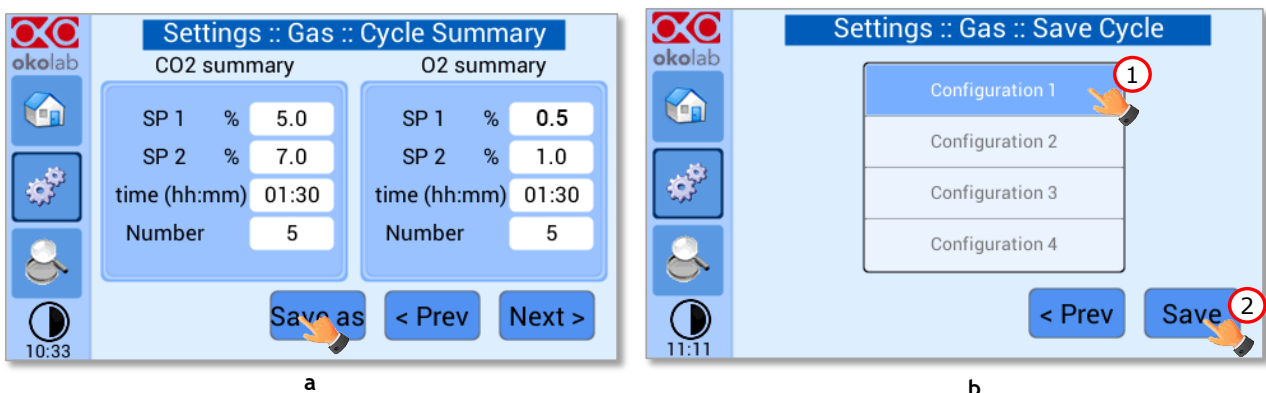

Figure 54. Cycle Summary and Configuration Saving (a - b).
- Once you have adjusted the settings, the *Cycle Summary* page will be displayed (see Figure 54 a). Press *Save As* if you want to save the CO2/O2 Cycle program to be recalled for future experiments.